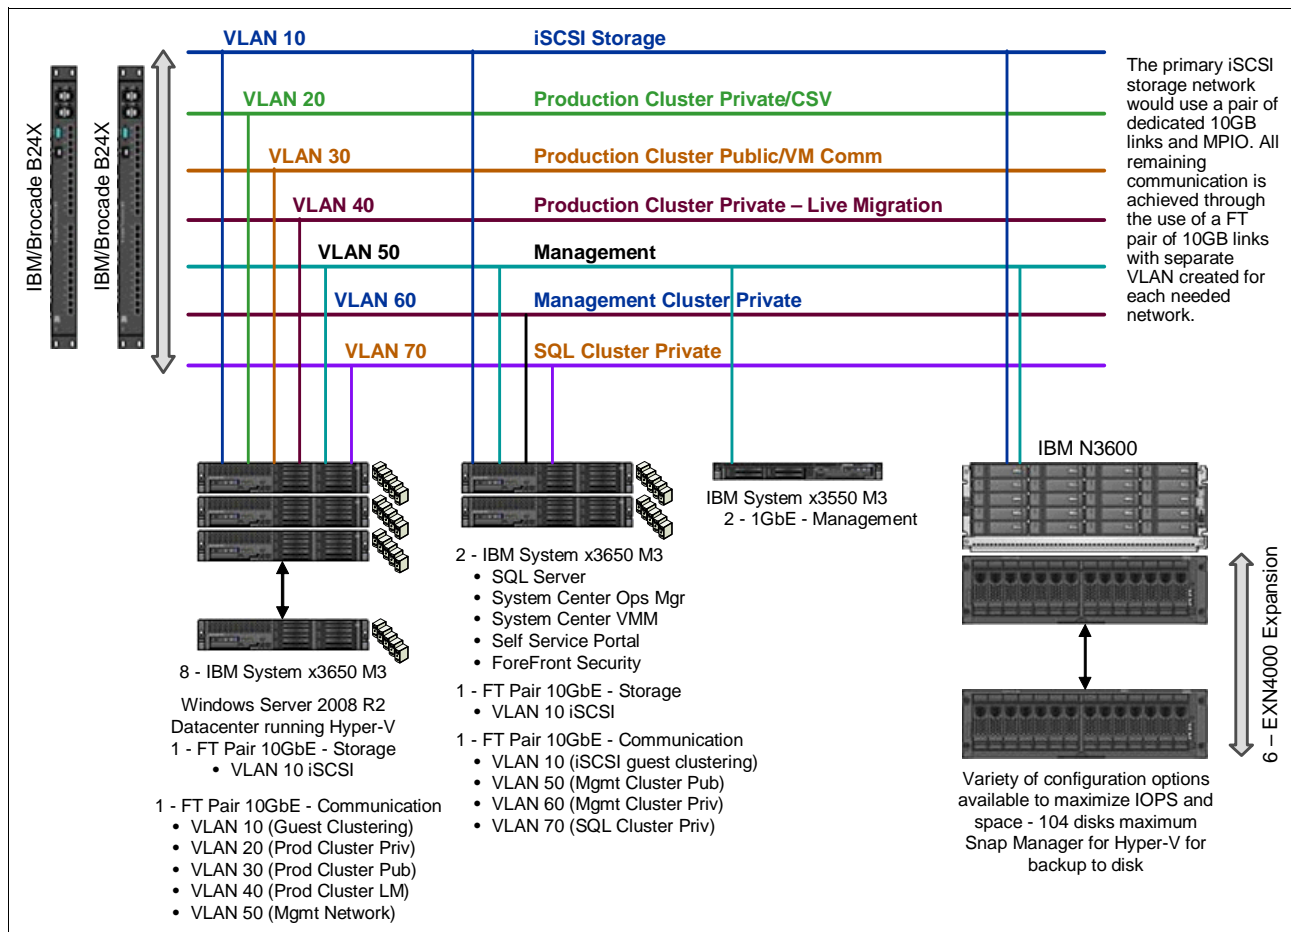

Figure 1 Diagram of VLAN and iSCSI storage
There are seven networks needed to build this configuration. All physical servers will utilize two CNA ports (one from each card) to connect to the iSCSI storage through a dedicated pair of 10 GbE links using the IBM N Series device-specific multipath I/O (MPIO) driver for fault tolerance and load balancing. The remaining networks will be created using the last two CNA ports and the Brocade adapter teaming software to create a fault tolerant (FT) Network Interface Card (NIC) pair off of the communications network. VLANs will be created to utilize this FT team as described in Figure 1.